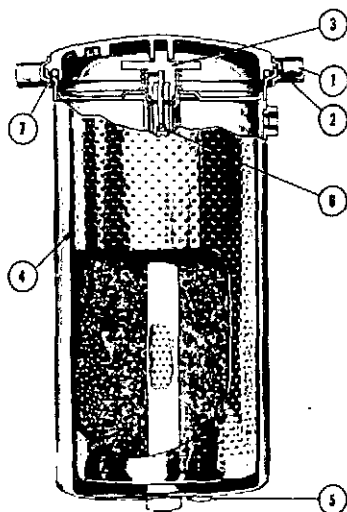

Fig. 5-8, V41908. Lubricating oil by-pass filter
1. Remove drain plug (5, Fig. 5-8) from bottom of housing and drain oil.
2. Remove clamping ring cap screw (1) and lift off cover.